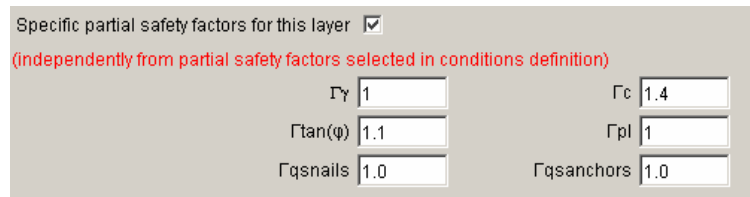

Figure 58: soil characteristic dialogue box: specific partial safety factors
- **Specific partial safety factors:** these specific factors that can be activated with the corresponding checkbox and defined for each layer (Figure 58). They replace, for each layer where they are defined and activated, the corresponding values of the partial safety factors chosen in the situations.